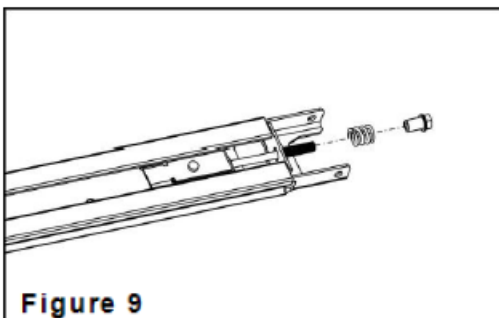

Figure 9
Step 3: As Fig.9, release the nut & spring.